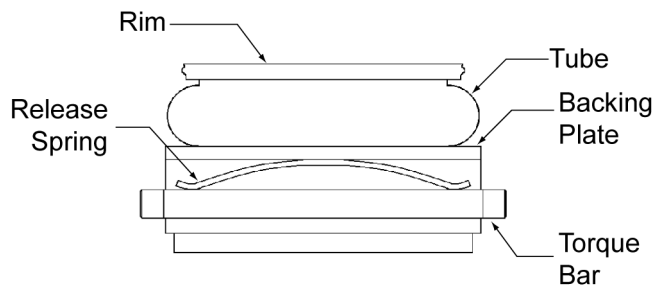

Figure 15
- 4.7.5 Place a torque bar in each mating hole in the side plate, slide a friction shoe assembly onto each torque bar and carefully tap a release spring (51VC1600, 60VC1600 and 66VC1600 elements have two release springs in each cavity) into place. Make sure the spring is positioned on the side of the torque bar opposite the friction lining. Also, the spring must contact the torque bar at two points, not one. See **Figure 15**.